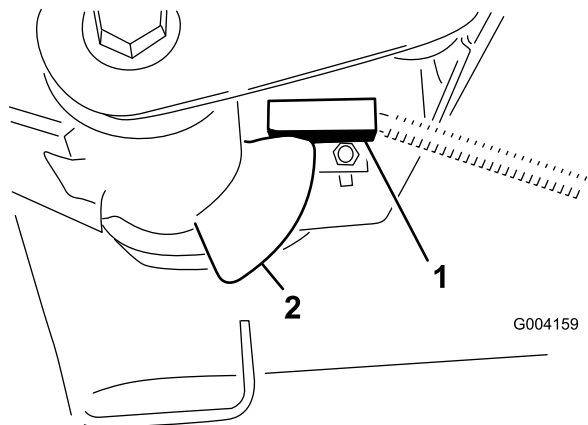

Figure 41
- The lift arm switch is located underneath the hydraulic tank behind the front right lift arm (Figure 41).
- Loosen the switch mounting screws (Figure 41) and move the switch down to increase the lift arm turn around height or move the switch up to decrease the lift arm turn around height. Tighten the mounting screws.